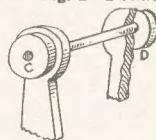

Fig. 3—Disc and spindle
To one end of this is glued a disc of $\frac{3}{16}$ in. or $\frac{1}{4}$ in. wood as (C) on the pattern sheet, and in the detail, Fig. 3. Pass the rod through one of the uprights and then thread on the hands of the figure, using a touch of glue here to fix them securely to the rod.